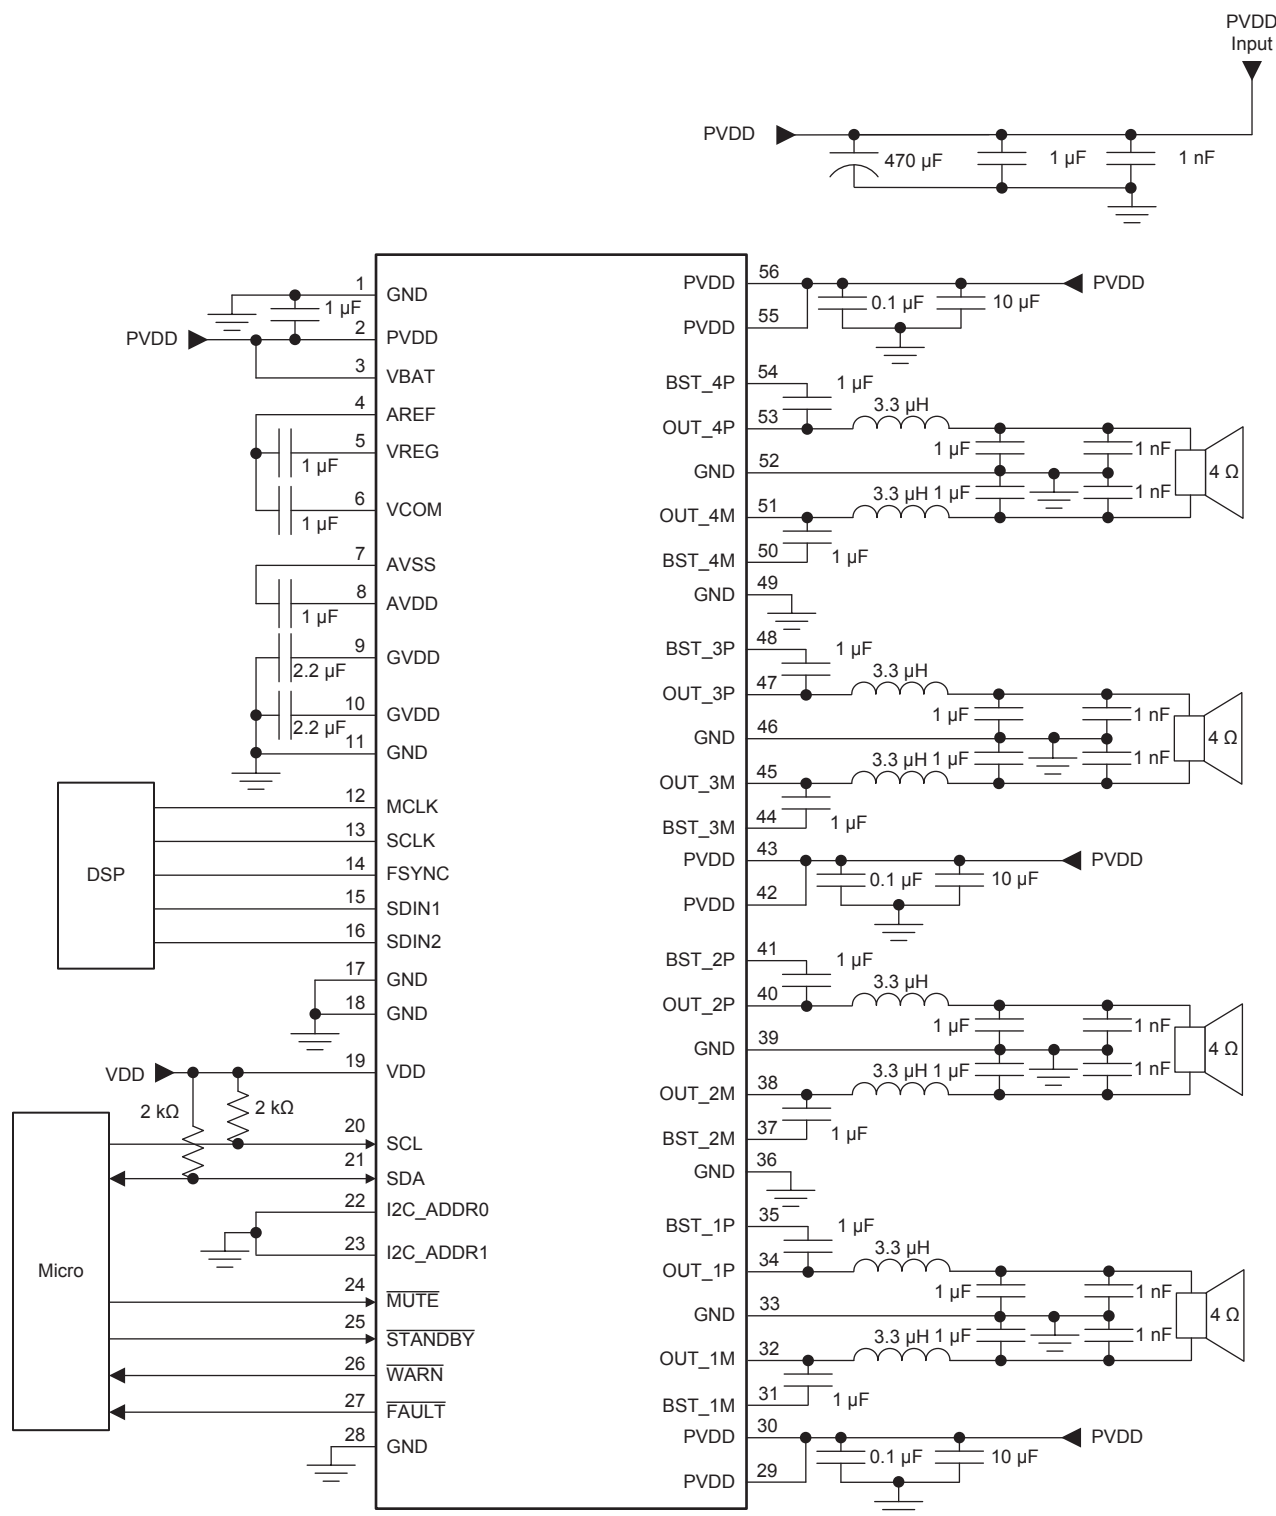

FIG 79. Typical 4-Channel BTL Application Schematic
图 79 shows the schematic of a typical 4-channel solution for a head-unit application.
- With the requirements, adjust the typical application schematic in Figure 79 for the input connections.